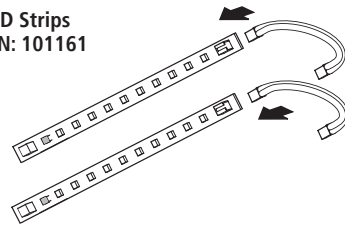

Fig. 62
- Disconnect power cord from operator (Fig. 62).